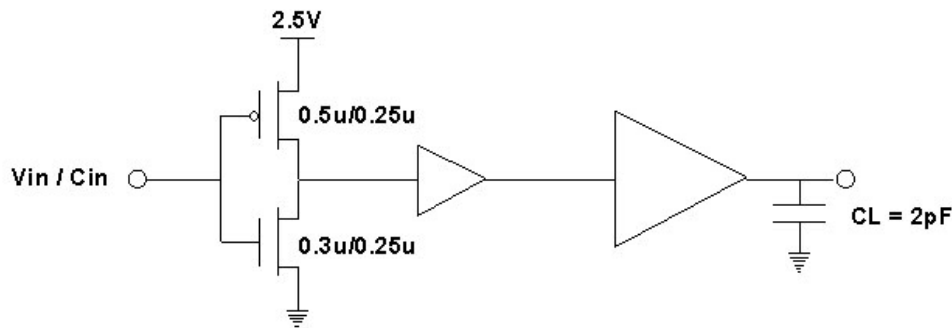

Figure 1a – Minimum Sized Inverter and Buffer Circuitry for driving a large load capacitance
- The minimum sized inverter in the library is not up to date. Please create an inverter in max with the same dimensions as shown in the first stage of Figure 1a below.
- Our design calls for a minimum sized inverter to drive a lumped capacitive load $C_L = 2.0$ pF with $V_{DD} = 2.5V$. In order to achieve better performance, two buffer stages are introduced as shown in Figure 1a below.
- d. Using the information obtained in part c, select the two buffers from the library that would yield the best response (i.e. gives the fastest performance) for the circuit shown in Figure 1a. You may use the same buffer twice if you so decide. Please show your hand calculations to justify your choice of buffers (i.e. find t_{delay} through the whole circuit).